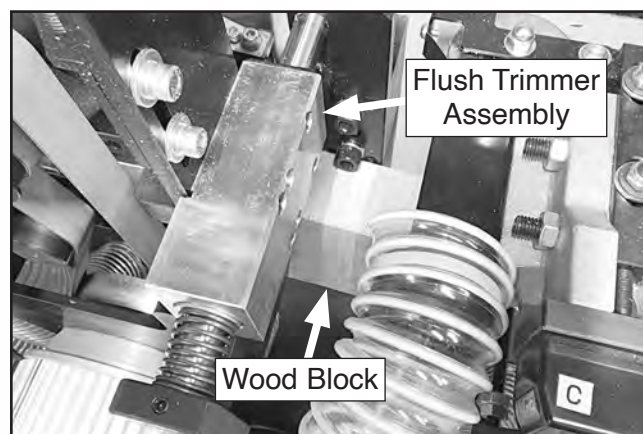

Figure 117. Wood block placed to support flush trimmer assembly.
4. Pull flush trimmer assembly back and place wood block between assembly frame and machine body, as shown in **Figure 117**. This will provide better access to components.